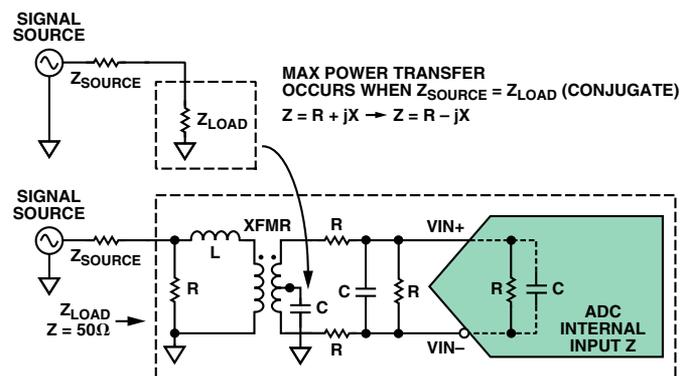

Figure 4. Maximum power transfer.
A. First, it is paramount that everything be taken into account when designing an ADC front end! Each component should be viewed as part of the load on the previous stage; and maximum power transfer occurs when $Z_{SOURCE} = \text{conjugate } Z_{LOAD}$ (Figure 4).